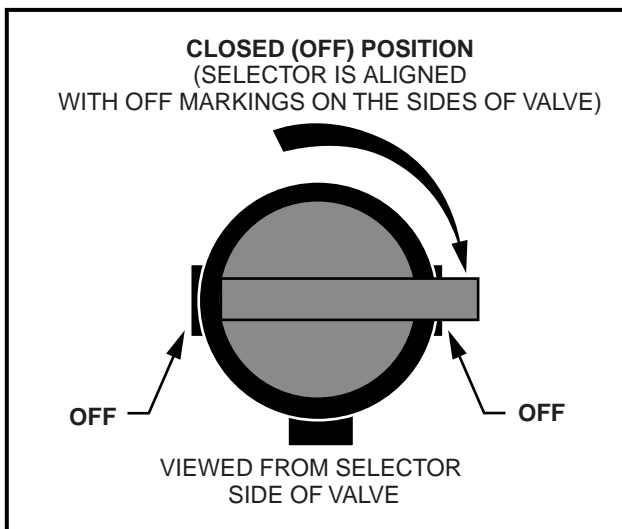

Figure 14-21 Closed Fuel Shut-off Valve
4. Turn fuel shut-off valve to the closed (OFF) position (**Figure 14-21, Page 14-26**) and run the engine until fuel remaining in the carburetor, fuel pump, and fuel lines is used up and the engine stalls (**Figure 14-21, Page 14-26**).
The fuel shut-off valve is located on top of the fuel tank **(Figure 14-20, Page 14-25)**. The fuel shut-off valve should always be turned to the closed (OFF) position during vehicle storage, towing or trailering **(Figure 14-21, Page 14-26)**. Unless the engine will be run as part of a procedure, the fuel shut-off valve should also be turned OFF before performing maintenance or service procedures.